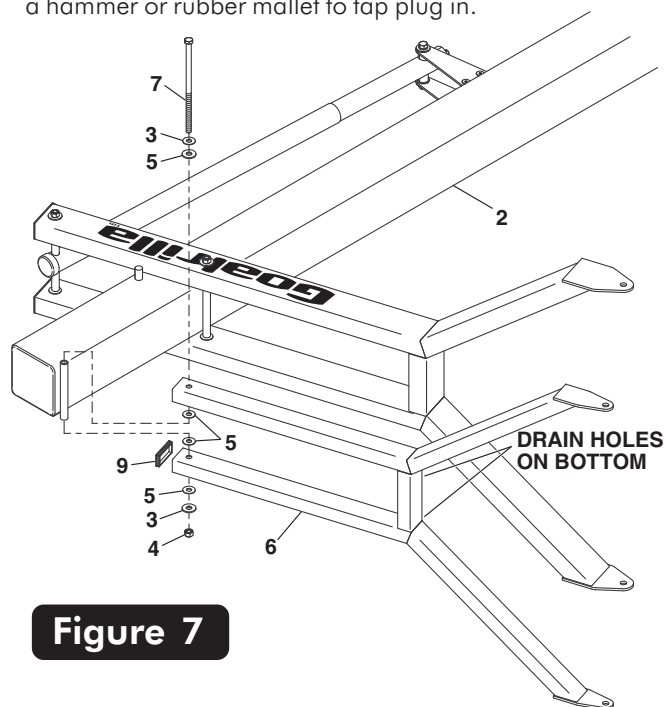

Figure 7
8. Attach Upper Arm (#6) to Pole (#2), as shown in Figure 7, using a bolt (#7), two flatwashers (#3), four plastic washers (#5) and hex nut (#4).